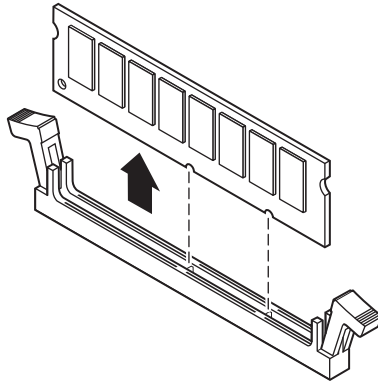

Figure 19: Removing the DIMM
2. Carefully lift the DIMM out of the socket (see Figure 19).